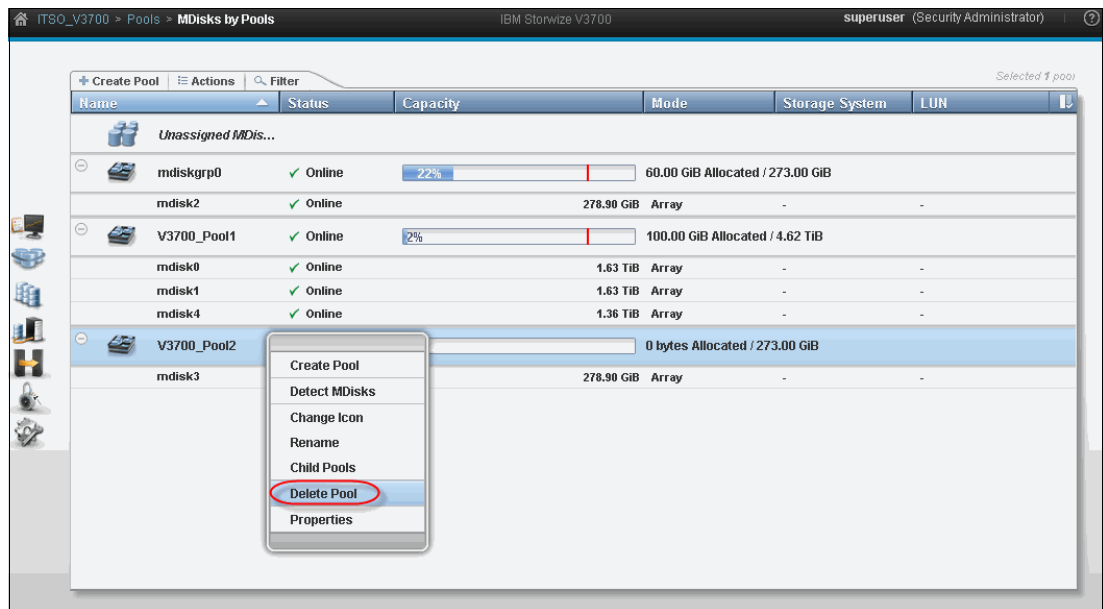

Figure 7-20 Delete selected pool
2. Right-click the pool and then select **Delete Pool**, as shown in Figure 7-20.